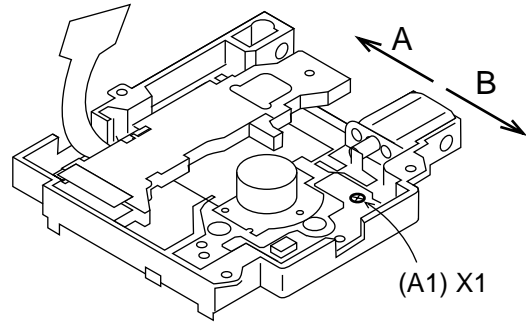

Figure 42-1
2. When the lead-in switch is located FF85 or less, tighten the screw while pressing the PWB in the direction of the arrow A. When FFD2 or more, to direction B. Measure the lead-in switch position again. After position adjustment is completed, fix the PWB with the screw (A1) x 1 pc.(shown in Figure 42-1)